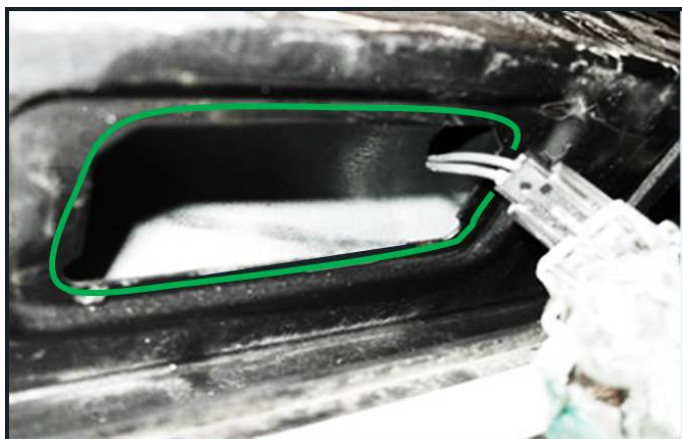

Figure 9: License plate light sealed off with butyl sealing cord
- Before installing the license plate lights, seal off the contact surface of the license plate light with butyl sealing cord (part number AKL 450 005 05, Figure 9, green mark).